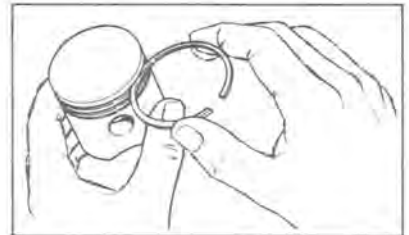
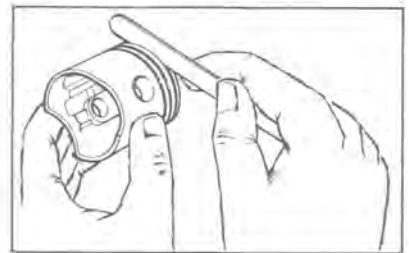

Figure 9-14
Figure 9-15
- d. Check each ring in its respective ring groove for tightness or binding by rolling the ring around the piston groove (see Figure 9-14). Check for groove side clearance with feeler gage (see Figure 9-15) (see Section 2, Specifications).